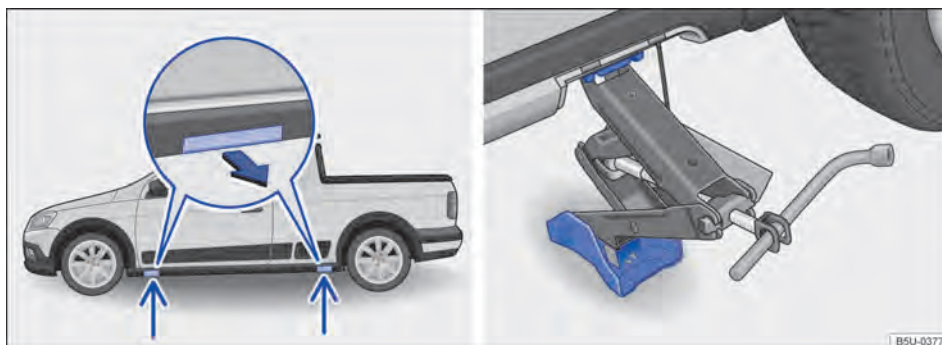

Fig. 206 Jacking points and vehicle jack at the rear left-hand side of the vehicle - vehicles with external sills.
The jack may be applied only at the jacking points shown (removable cover) → Fig. 206. Always use the jacking point closest to the wheel you are working on → ⚠.
7. Remove the jacking point access cover, in the direction of the arrow → Fig. 206.
9. Ensure that the entire surface of the foot of the jack is resting securely on the ground and that the foot of the vehicle jack is positioned precisely below the jacking point → Fig. 206.
10. Align the jack and, at the same time, raise the vehicle jack claw until it engages with the cross piece under the vehicle → Fig. 206.
- Fit the vehicle jack only at the points described. The vehicle jack claw must fit securely into the side member rib → Fig. 206.